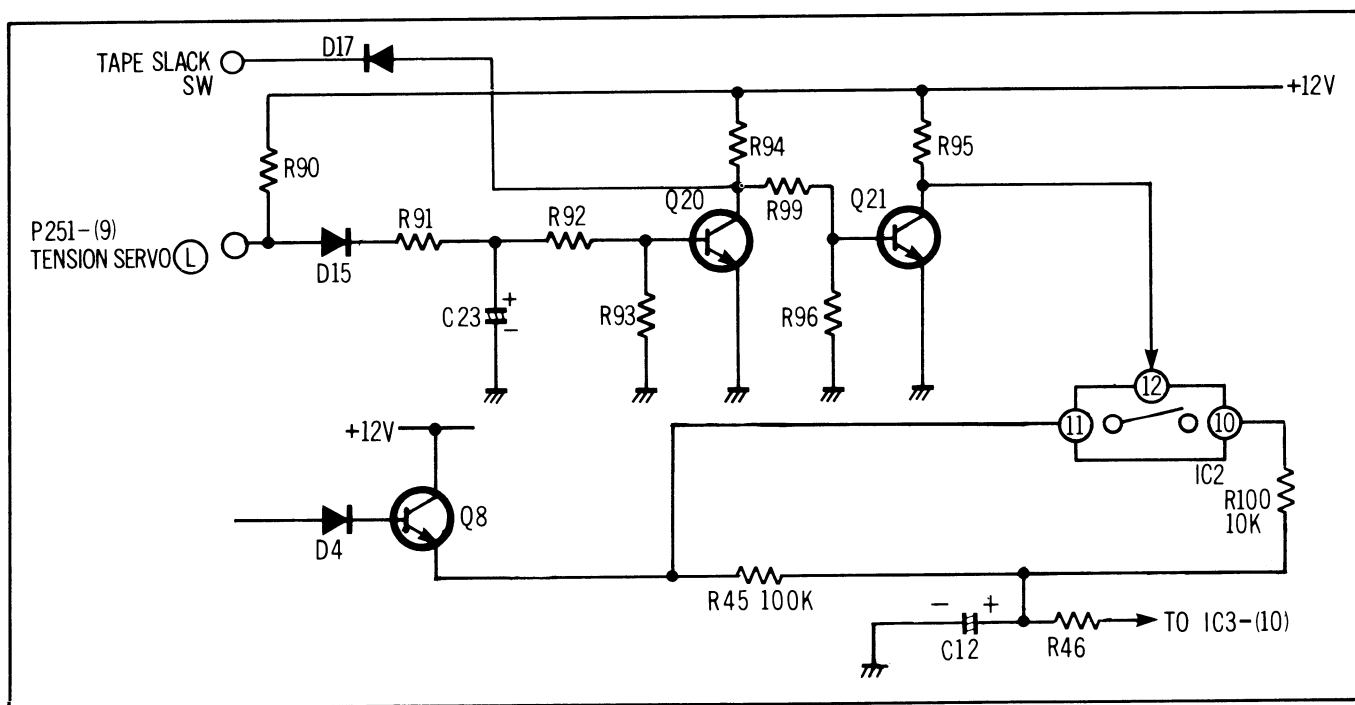

Figure 2-203
When the pause mode is released, tape slack will occur since C12 is discharged completely and the capstan is now engaged. A quick charge is needed to provide rapid tape takeup. The IC Switch, IC2-(10), (11) and (12), performs this quick charge by shunting R45 with R100. This switch is also on if the tape slack switch in the transport comes on, to pick up any tape slack (D17). See Figure 2-203. When the Pause mode begins, a high turns Q20 on and charges C23.